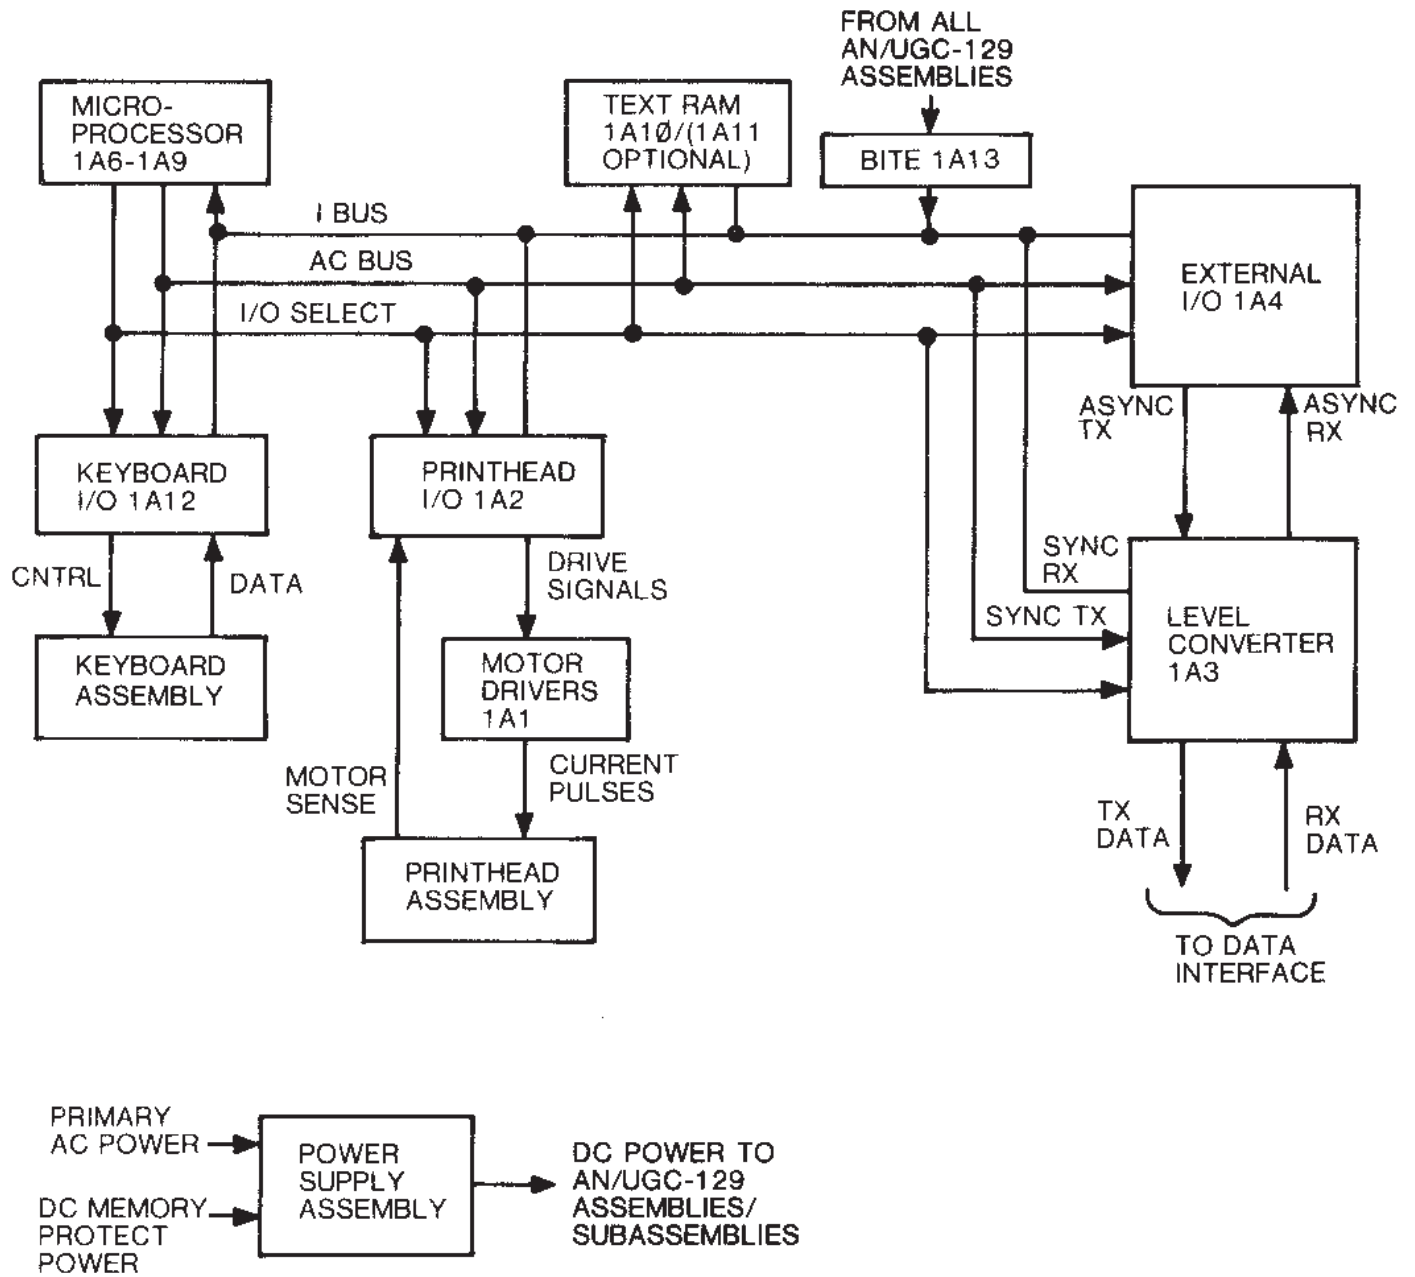

Figure 5-1. AN/UGC-129 Simplified Block Diagram
5-2. SYSTEM OPERATION. All message data flow is controlled by, and routed via Microprocessor 1A6-1A9 (fig 5-1). Transmit data is routed from the keyboard or from text memory (RAM 1A10, 1A11) to the microprocessor via the input (I) bus. The data is then routed via the microprocessor output (AC) bus to External I/O 1A4 and Level Converter 1A3 for transmission and to the printhead for printing. Receive data is routed from 1A3 and 1A4 to the microprocessor via the I bus and then routed to text memory for storage and to the printhead for printing. The microprocessor uses the I/O select lines to address the assembly used during a receive or transmit data transfer task. BITE 1A13 provides the system built-in-test equipment capability. An operation summary and a detailed description of receive/transmit functions follow.